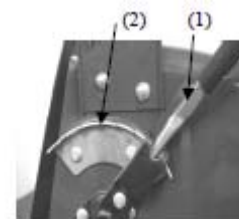

Figure 2. Height adjustment
**Adjusting the cut height**– refer figure 2.